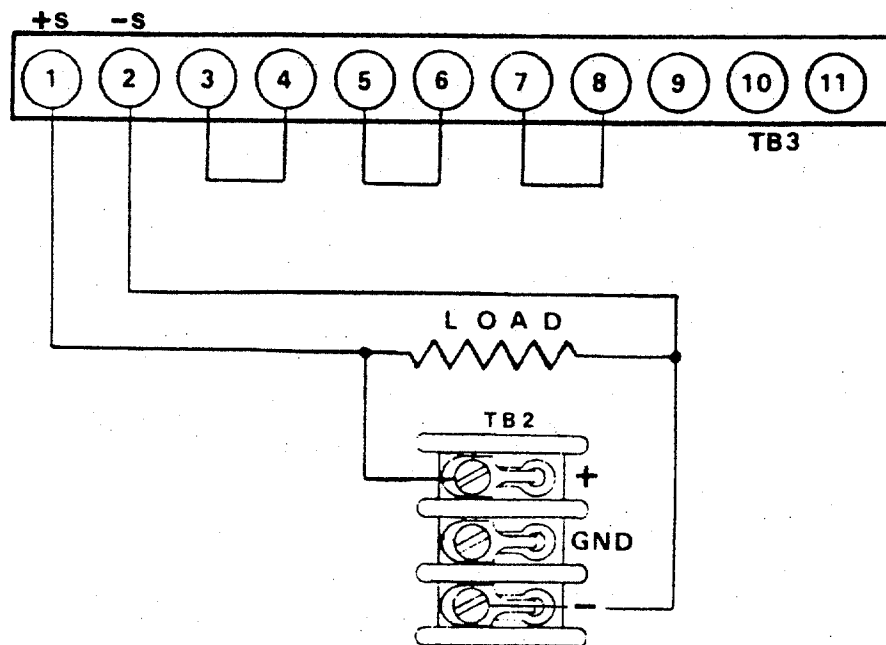

Figure 3-3 Remote Sensing Connections
3.2.2 Remote Sensing (Figure 3-3)